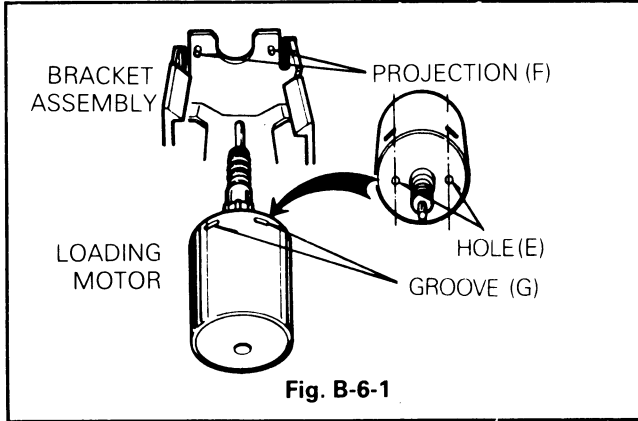

Fig. B-6-1
6. Loading Motor Assembly(Fig. B-6-1, B-6-2)
- ① Make sure that the worm assembly is seated in the axis of Loading Motor.
- ② Two grooves(G) of Loading Motor should be turned up and two projections(F) of Bracket Assembly should be seated in each at the two holes(E)(Fig. B-6-1).
- ③ Take notice of the polarity of the Loading Motor.